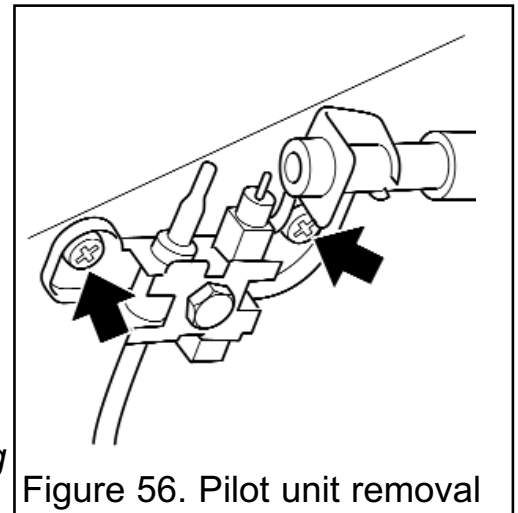

Figure 56. Pilot unit removal
6. Remove the two screws securing the pilot unit (See figure 56).